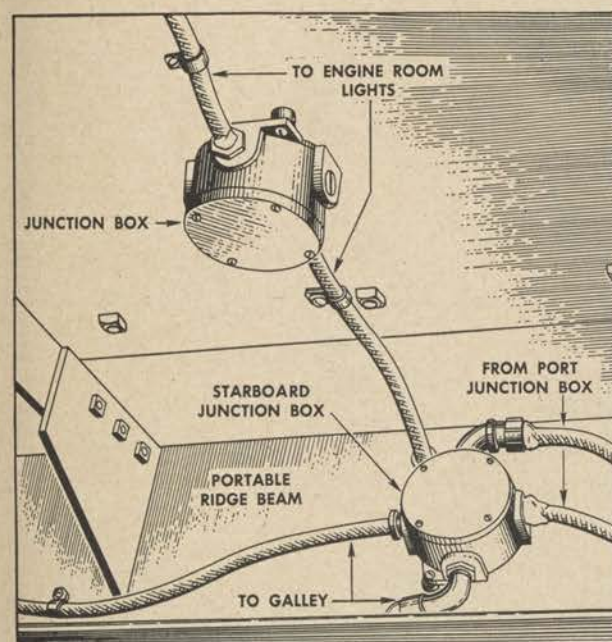

Figure 48. Junction boxes, forward roof section, port side.
(8) *Machinery room lights.* Connect the two cables clamped to the aft roof section to the junction boxes on the forward deck house roof, by threading through the holes provided in the portable ridge girder. (See fig. 48.)